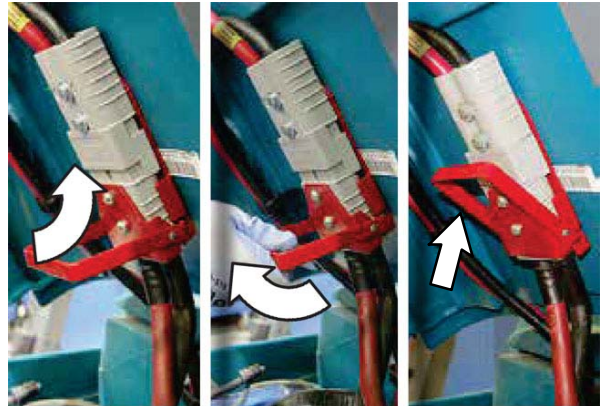

FIG. 5
2. To disconnect the battery cable from the machine: Slide battery connector into machine battery connector and push the disconnect handle to fully connect the battery connectors. (Fig. 5)